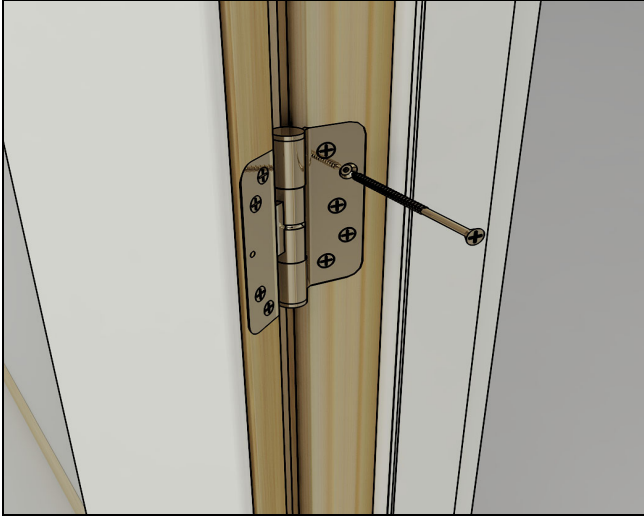

Figure 22 Adjustable hinge
1. On all operating panels that hinge off of a jamb., install a provided #10 x 2 1/2" screw as shown in Figure 22. The 2-1/2" screw will always be put in the 2nd screw hole from the top. On IZ3 units, two #10 x 2-1/2" screws are needed in the center holes.